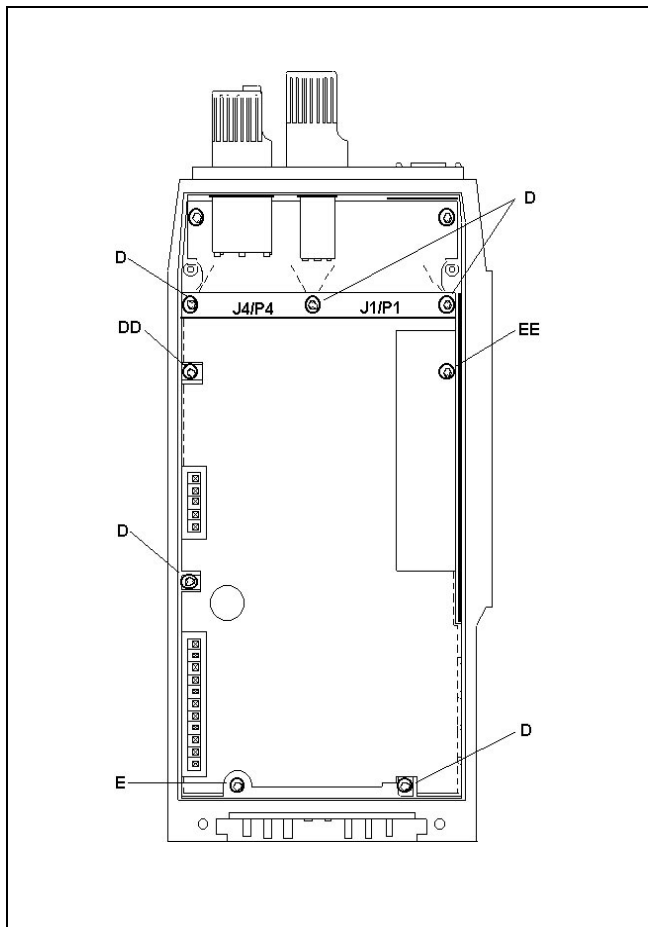

Figure 8 - Control Board Access
To gain partial access to the Control Board, remove the five (5) screws (D) securing the shield and board. An earlier Front Cover Assembly has an additional screw located just below connectors J4/P4 (DD). See Figure 8.